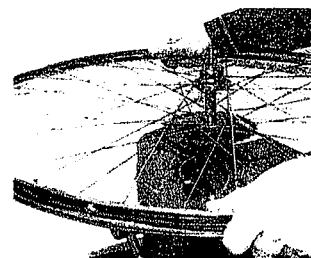

Fig. 19 - Removing a freewheel using a bench vise.
1. Position the wheel in a bench vise with vise jaws clamped firmly around the freewheel remover's wrench flats (figure 19). Turn wheel counter clockwise just to break it free; or,